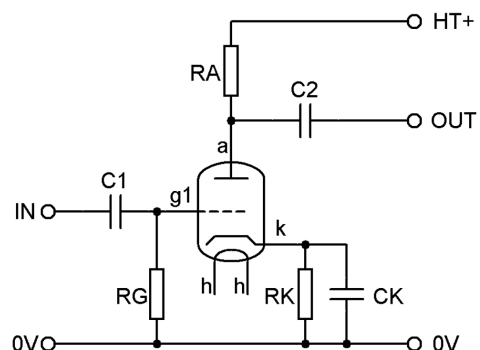

Fig. 2. Basic triode valve amplifier circuit.
Referring to Fig. 2, if a varying signal is applied to the control grid (g1) via C1, the anode current will vary in sympathy. By placing a resistor (RA) between the anode and the positive supply, the varying current will be converted to a varying voltage on the anode.